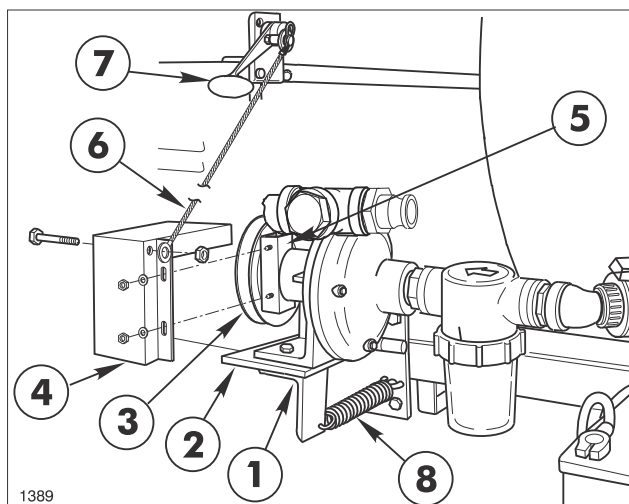

FIG. 6
5. Assemble the Centrifugal Pump and the Spring Mounting Angle to the Pump Pivot Plate, using two (2) 3/8" x 1-1/2" cap screws, flat washers, and lock nuts as shown in FIG 6.
6. Using a straight edge as a guide, position the Pump Pulley so that it is in alignment with the Engine's Drive Pulley. When alignment is correct, tighten the two (2) set screws in the Pump Pulley's hub.
8. Loosely mount the Pump Belt Cover to the Pump hub with the Pump Cover Clamp and the two (2) 5/16" flat washers, lock washers, and hex nuts. See FIG. 6.